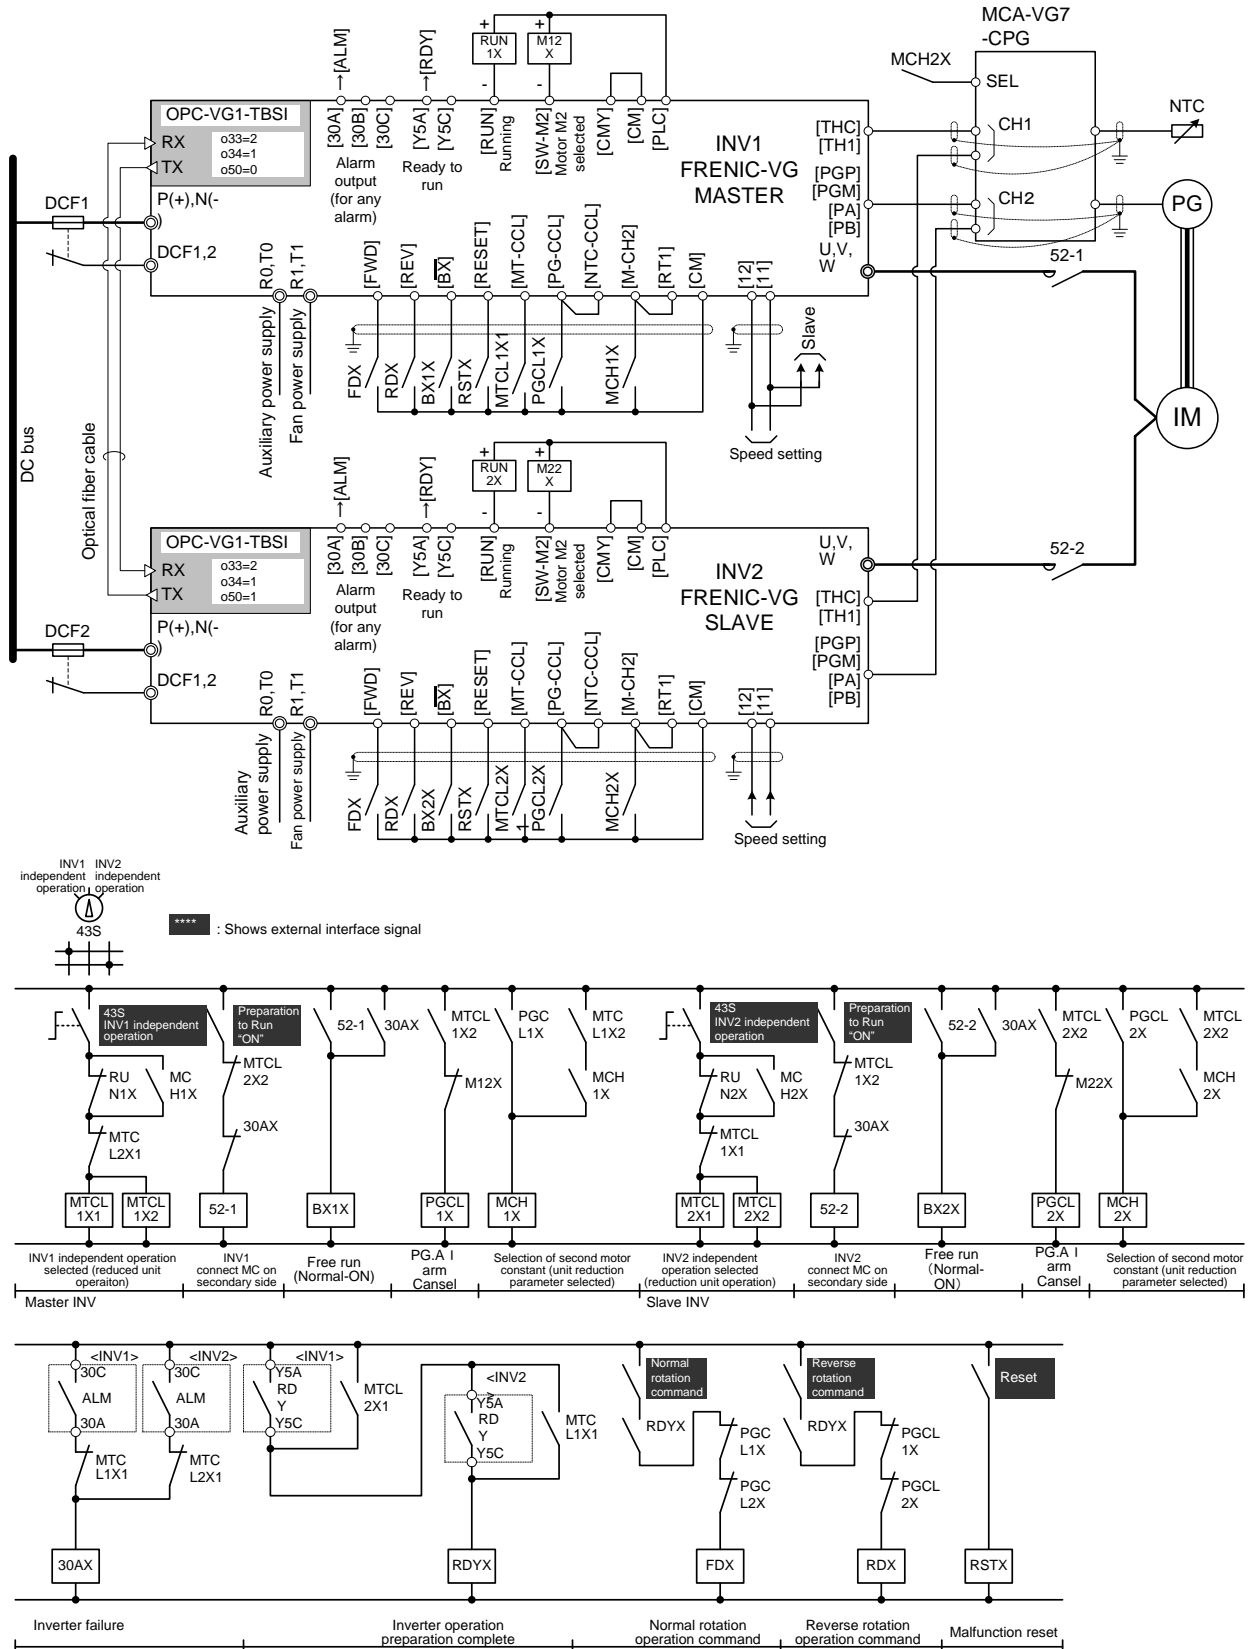

Figure 9.4-3: Basic configuration for direct parallel connection system using two inverters
- 3) For simple systems, hardware can be constructed as Figure 9.4-3. However, when a more complex process sequence is desired, construction of a system structure which operates on communication with PLC is recommended.